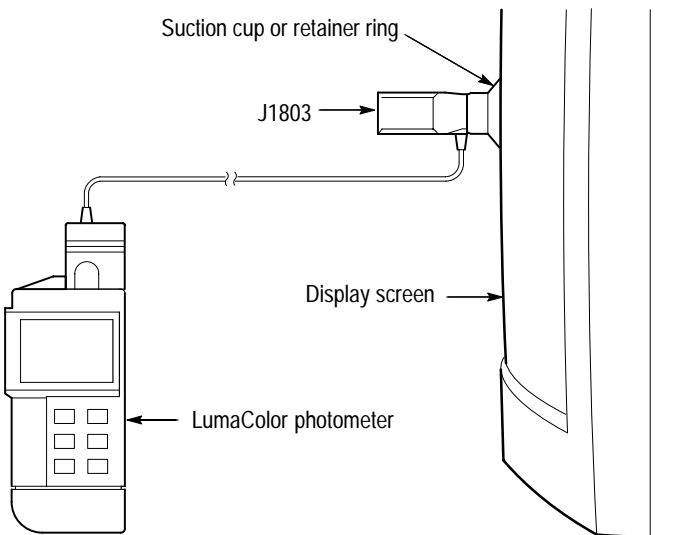

Figure 1–2: J1803 setup for display luminance measurements
4. Attach the rubber suction cup or retainer ring to the J1803 and position the J1803 on the monitor. Refer to Figure 1–2.